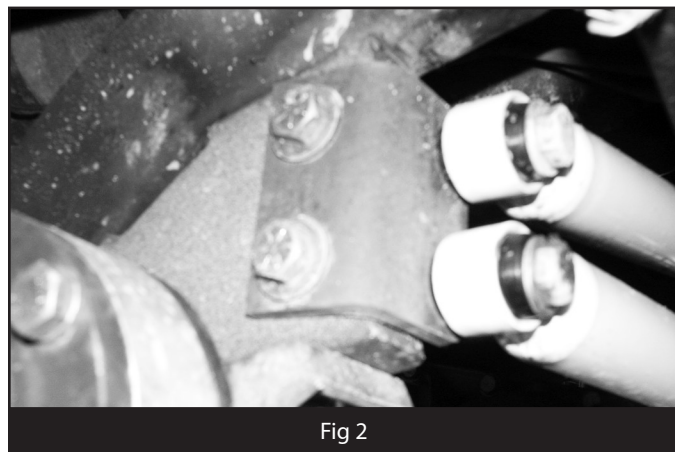

Fig 2
6. Attach stabilizer bracket (01541) to differential drop bracket with 1/2" hardware. Tighten to 65 ft-lbs. (Fig. 2)